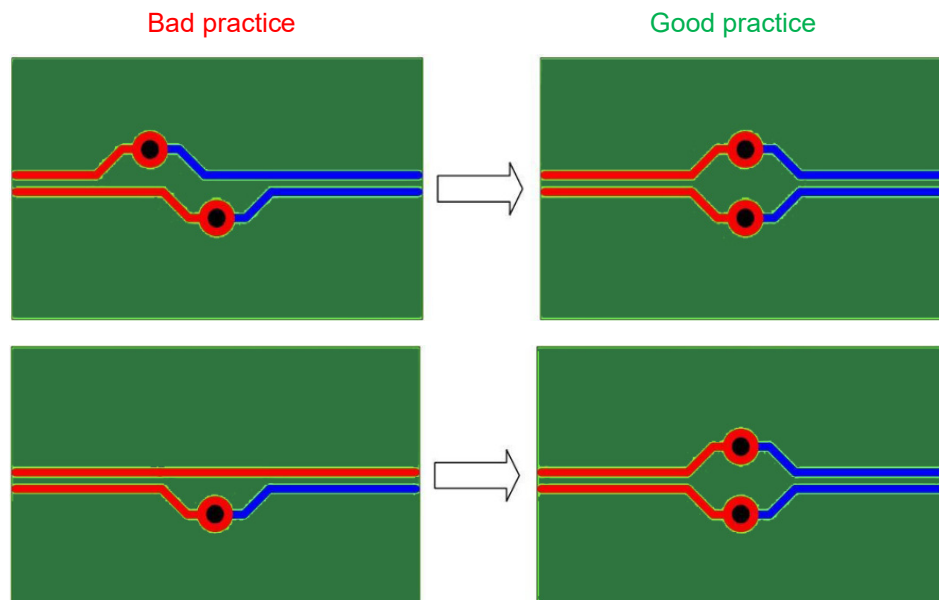

Figure 16. Differential Traces Layout Practices (2)
Differential Traces Layout Practices (2) (see Figure 16)